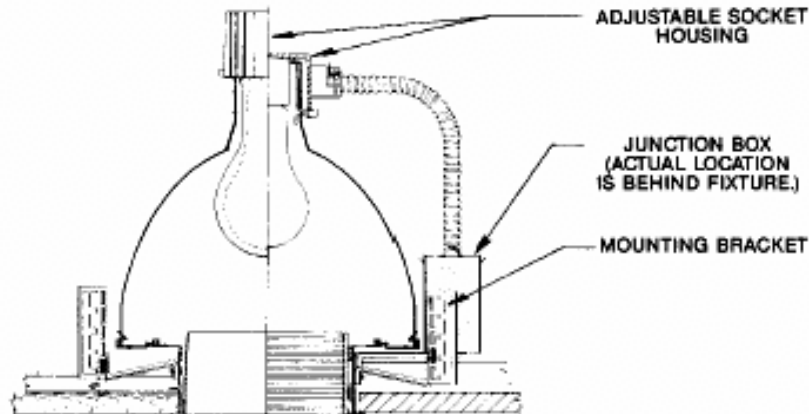

FIG. 1
- 1) Push APERTURE CONE or MULTI-GROOVE BAFFLE straight up into MOUNTING FRAME until tight against finished ceiling. RETAINING SPRINGS on MOUNTING FRAME (Fig.1) will secure APERTUR CONE or MULTI-GROOVE BAFFLE in place.